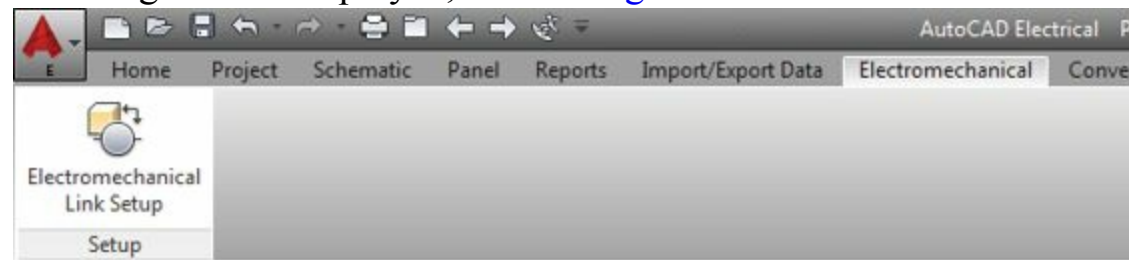

Figure-2. Electromechanical tab in Ribbon
- Click on the **Electromechanical** tab from the **Ribbon**. The tool(s) related to electromechanical linking will be displayed; refer to Figure-2.